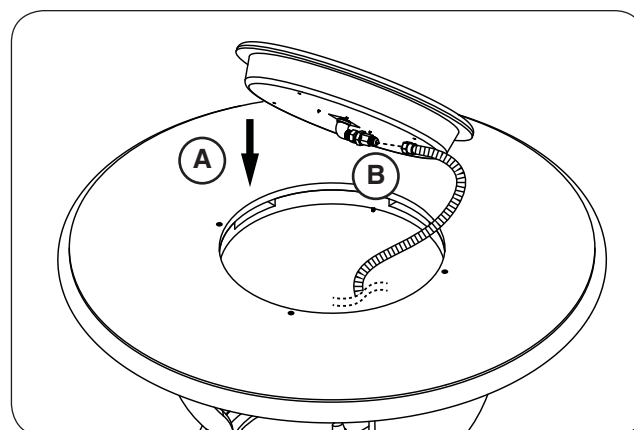

Fig. 18-4 Place burner and connect flex
5. Drop the burner assembly into the opening in the center of the firetable top (see Fig. 18-4, A).
6. Locate the flex connector (marked OUT) that is coming off the valve assembly. Route it to the connection found on the underside of the burner assembly and connect. Tighten securely. See Fig. 18-4, B.